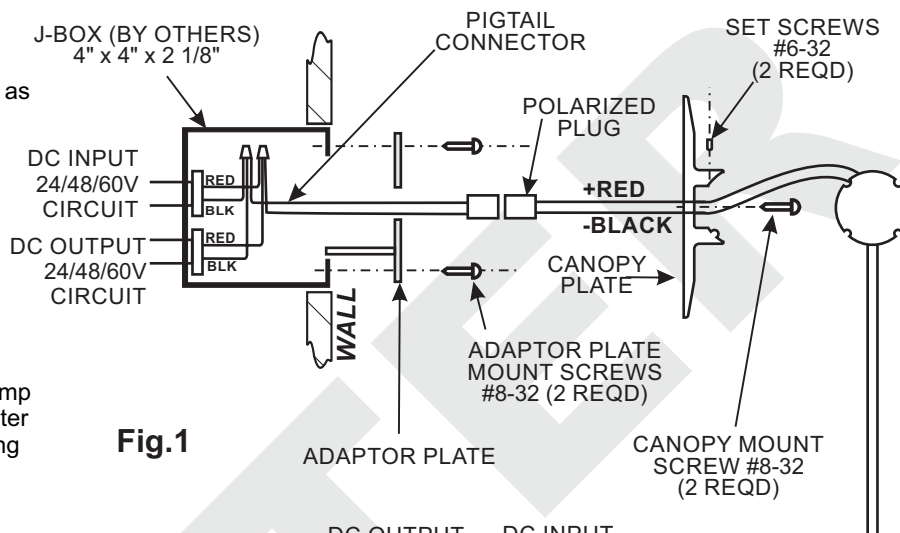

Fig.1
1. Install J-Box 1/8"-1/4" below finished panel surface. Connect DC input/output circuit wiring as shown in fig.1, and connect the BLACK(-) and RED(+) leads to the pigtail connector supplied.